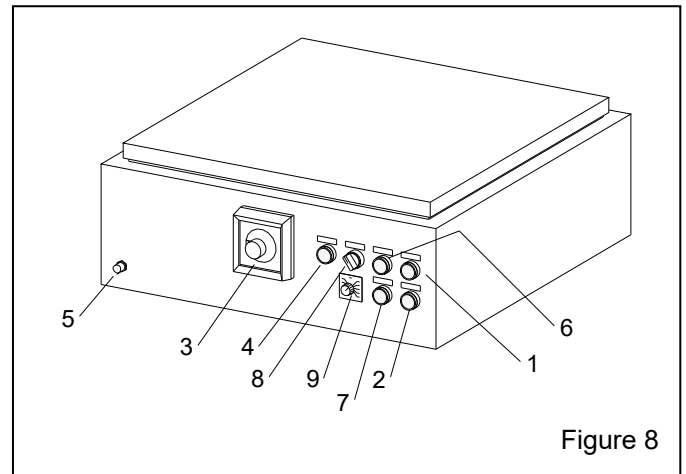

Figure 8
4.1.2 Variable-speed controls – Figure 8